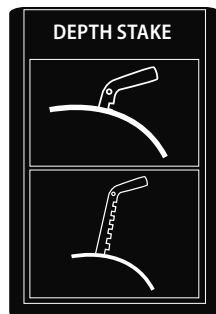
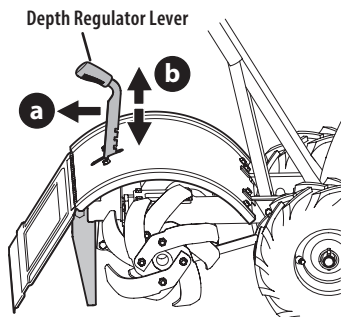

Figure 14
Figure 15
3. Move the depth regulator lever all the way down to the "travel" position, so that the tines clear the ground. To change the depth setting, pull back on the depth regulator lever (a) and lift up or down (b), then release the lever to secure in the desired position. See Figure 14 and Figure 15.